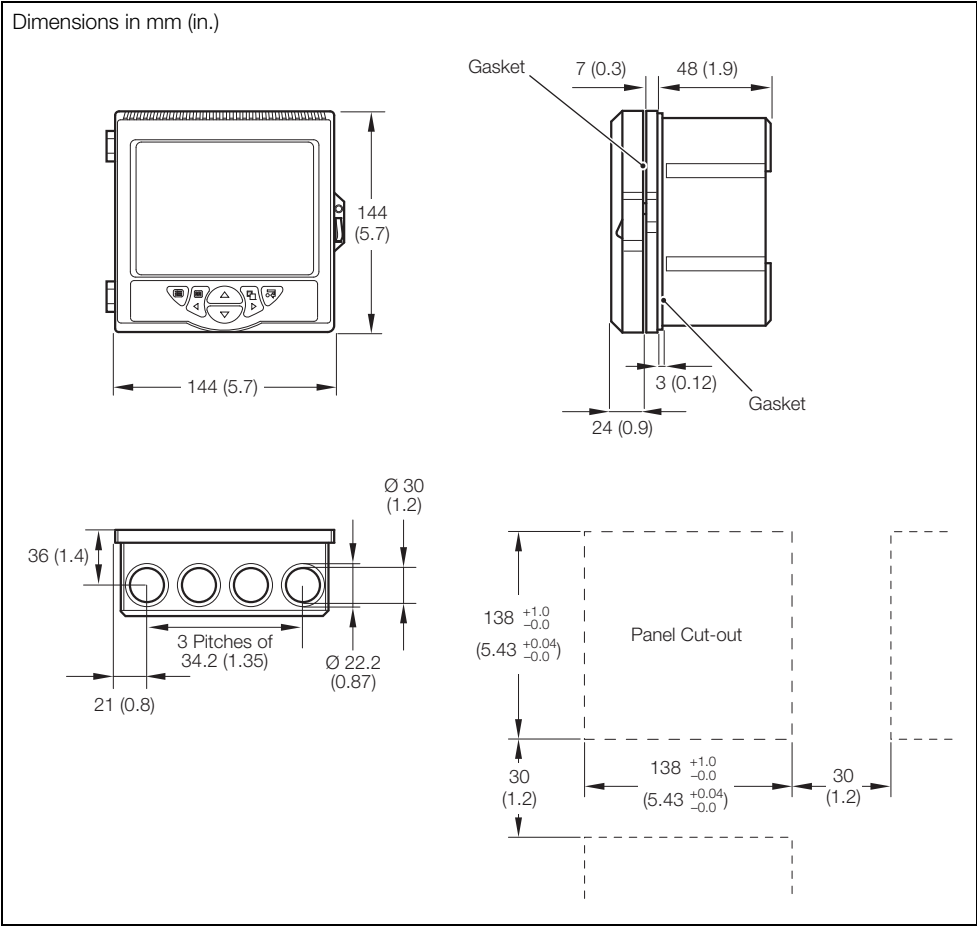

Fig. 2.3 Mounting Dimensions
- ① Cut the correct sized hole in the panel – see Fig. 2.3, page 10.
- ② Insert the recorder into the panel cut-out.
- ③ Screw one clamping screw into the left-hand bracket until 10 to 15mm of the thread protrudes from the other side of the bracket and position one clamp over the end of the thread.
- ④ Holding the assembly together, position the bracket into the left-hand recess on the rear of the recorder case and secure with the bracket securing screw. Ensure that the plastic washer remains in the position fitted.
- Repeat instructions ③ and ④ for the right-hand panel clamp assembly.
- ⑤ Tighten the clamping screws evenly and securely by hand.